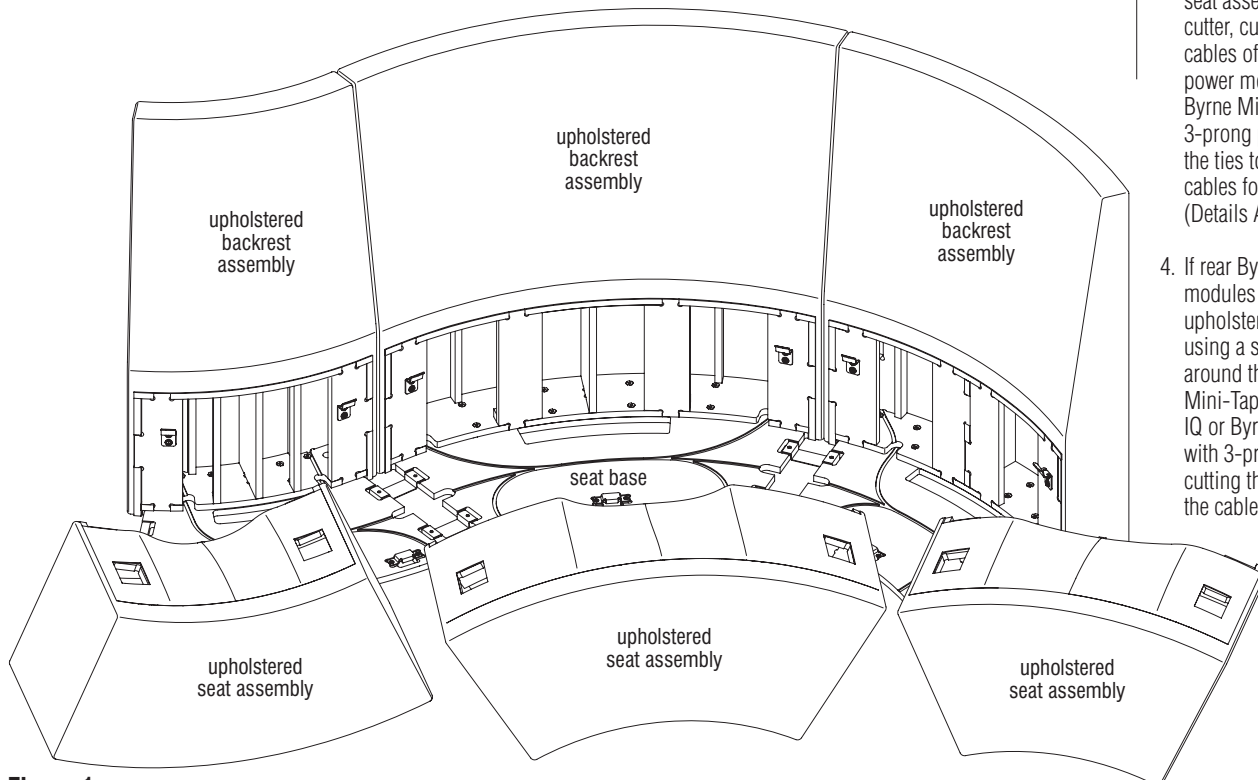

Figure 1
1. After all gangers have been installed and the final lounge layout is complete, set all upholstered seat assemblies in front of each corresponding upholstered backrest assembly (Figure 1).
2. Carefully turn each upholstered seat assembly onto a soft, protective surface with the openings at the back of the seat facing up (Figures 1 & 2).